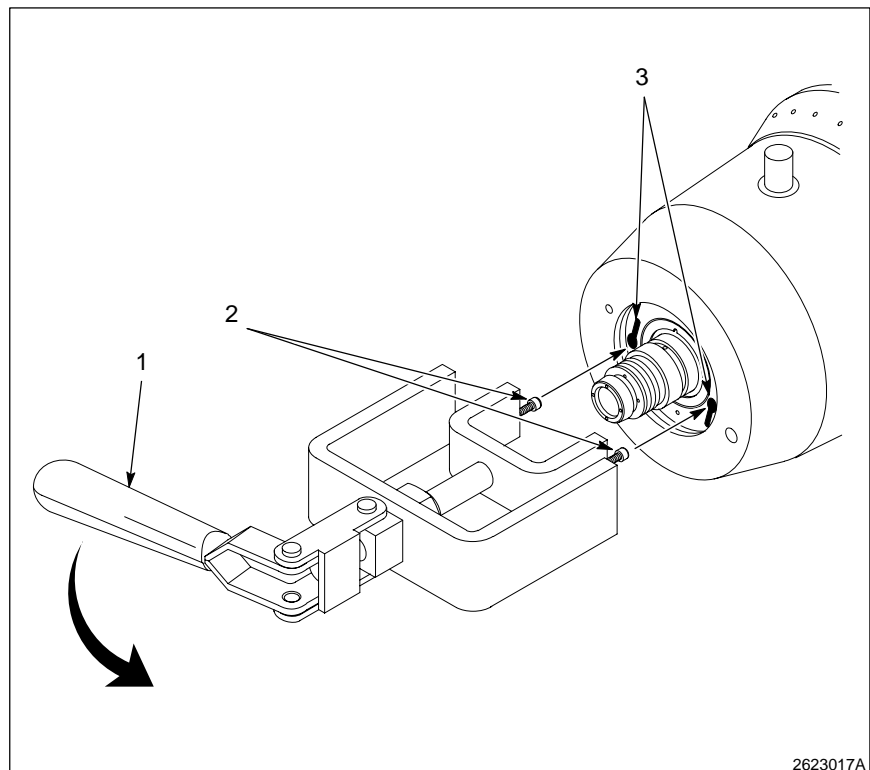

Fig. 7-7 Front bearing holder removal
3. See Figure 7-7. Extend the puller tool (1) and align the heads of the 2 extended screws (2) with the 2 keyhole slots (3) in the front bearing holder.